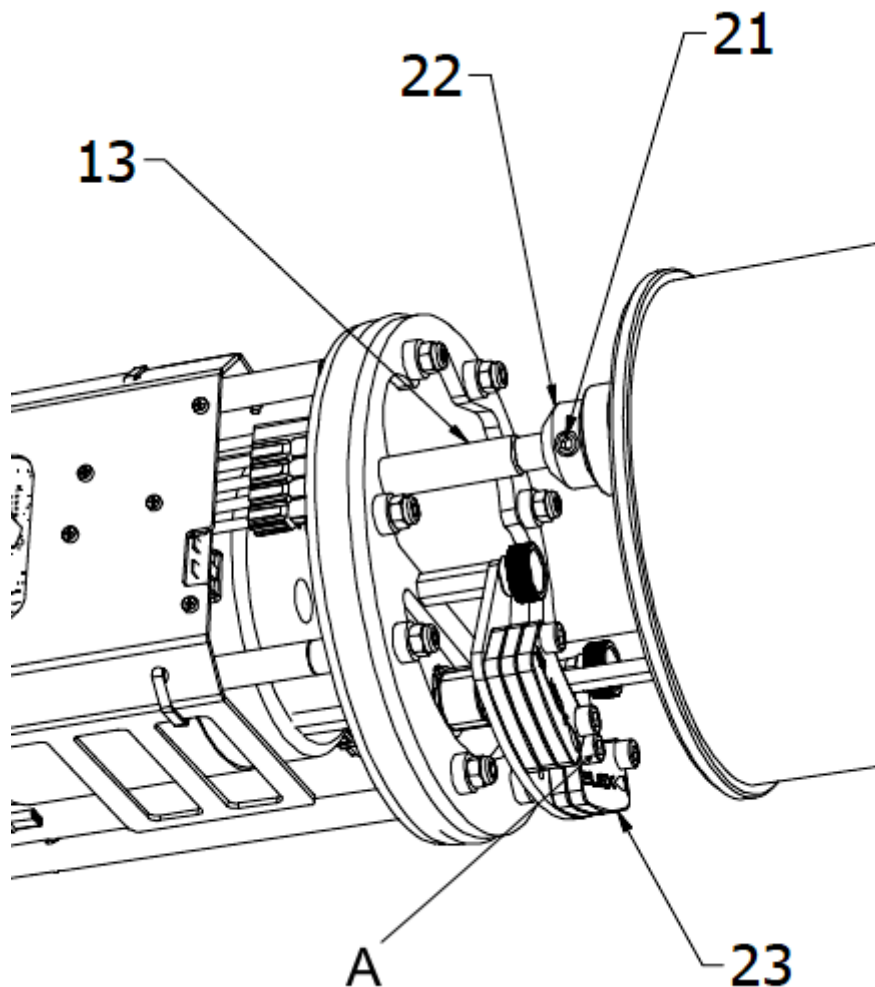

Fig. 8b - Ballast insert
- Unscrew the screws A (see Fig. 8b)